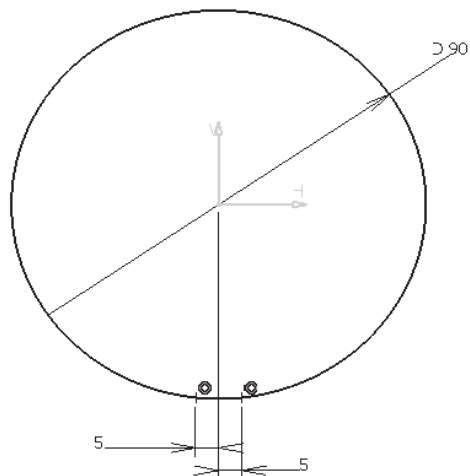

Figure 10-50 First section of the base surface
- b. Draw the sketches for the multi-sections surface, refer to Figures 10-50 through 10-52.
2. Place two points on the circle, as shown in Figure 10-50. These points will be used to create the guide curve and define the closing point for creating the loft surface later in this tutorial.